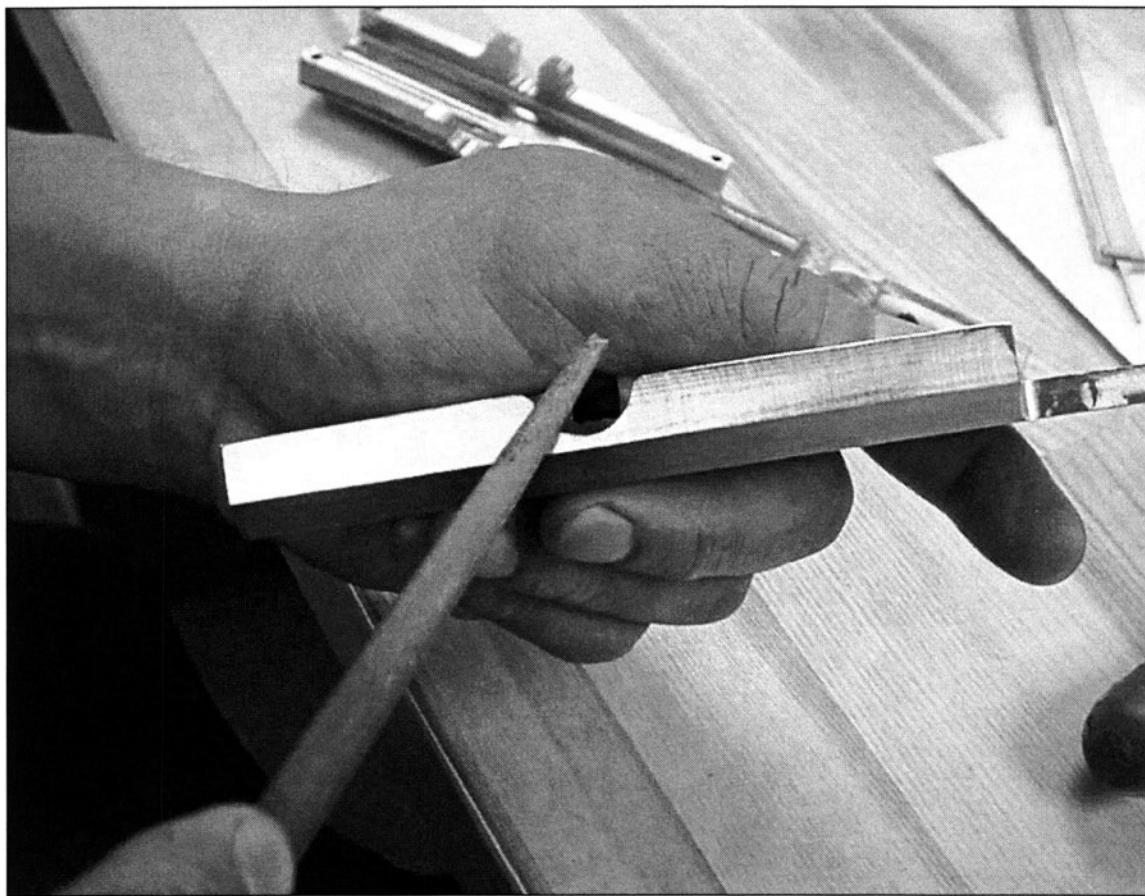

FIGURE 5-12 A tear drop file is used to deburr a curved shape. Tear drop files work well for deburring shapes with varying radii.
38. *Use a tear drop file for filing radii. (See Fig. 5-12)*